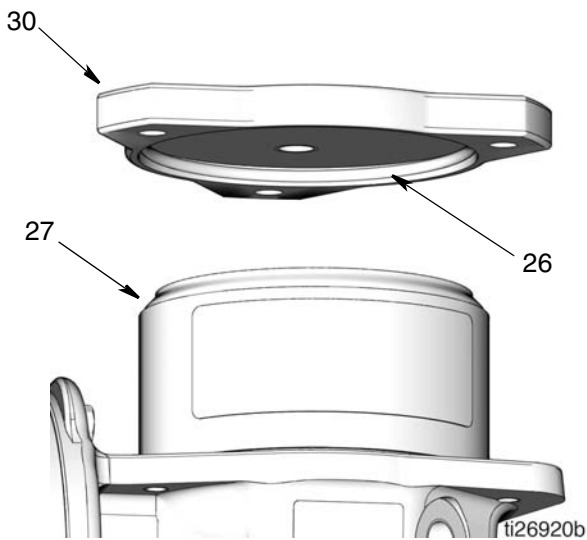

FIG. 60
13. Position cover (30) over reservoir (27). Take care to not pinch or move the o-ring (FIG. 60).